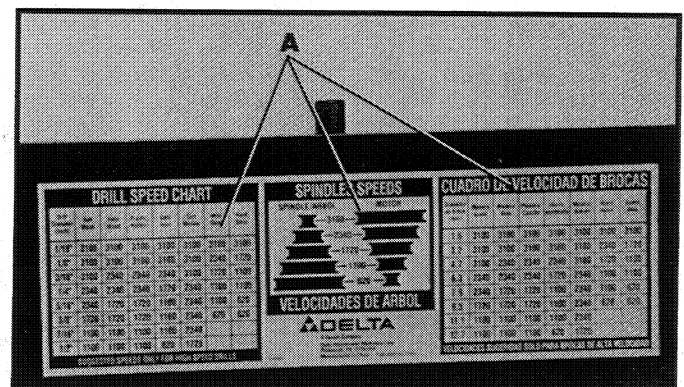

Fig. 24
1. A belt positioning and speed chart (A) Fig. 24, is conveniently located on the inside top cover of the drill press for your convenience.